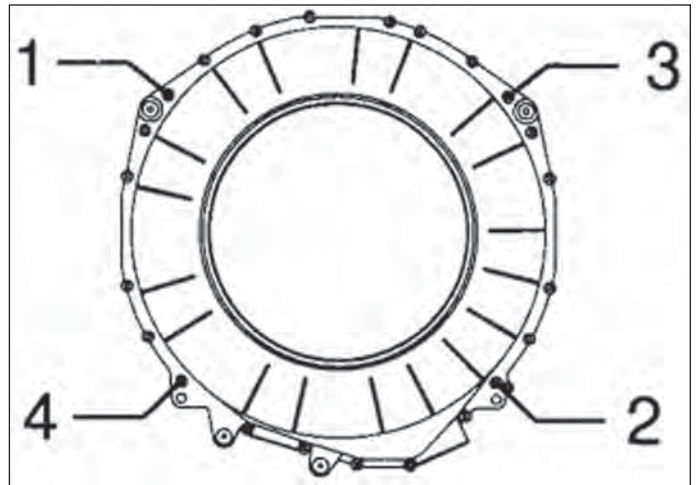

Figure 4-105.
14. Reverse procedure to reassemble using illustration below to show outer tub screw tightening sequence. (See Figure 4-105) (continued next page)